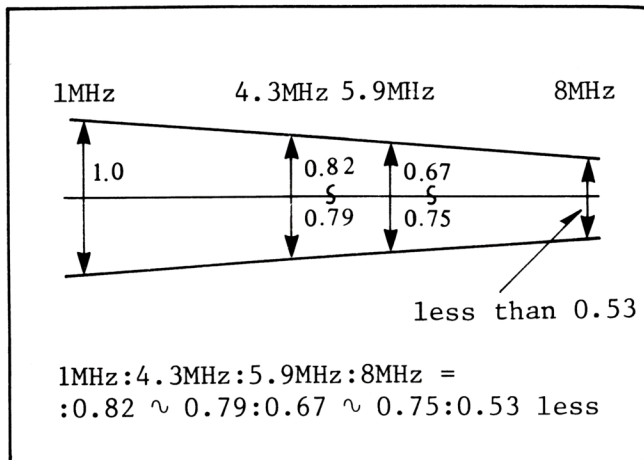

Fig. 2-5-9. Y. REC AMP FREQUENCY CHARACTERISTIC
5. Adjust VC4 (Y FC) as shown in Fig. 2-5-9.